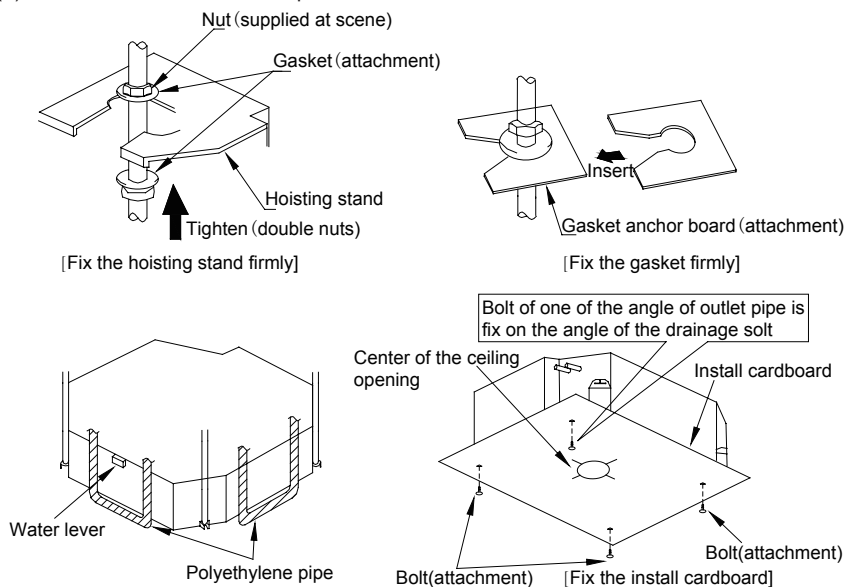

Fig. 4
(3). Place unit in installation location. (Refer to the Fig. 4)